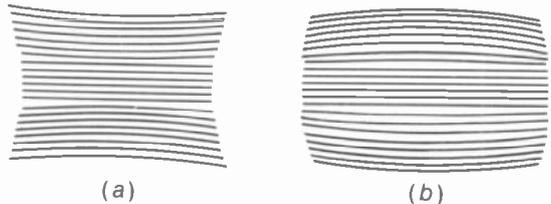

FIGURE 4-8 PINCUSHION DISTORTION OF RASTER IN (a) AND BARREL DISTORTION IN (b).
**Pincushion and barrel distortion.** If deflection is not uniform at the edges of the raster, compared with the center, the raster will not have straight edges. For scanning lines bowed inward as in Fig. 4-8*a*, this effect is *pincushion distortion*. Barrel distortion is shown in *b*.